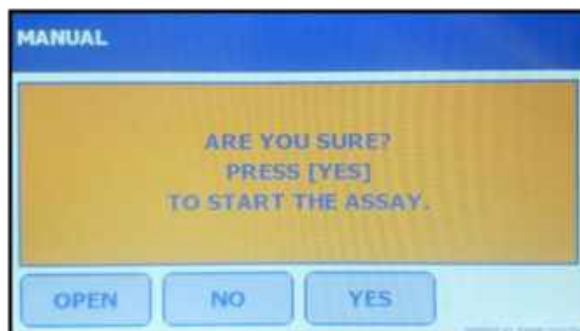

Figure V-10: Confirmation of Program Run
1. To run the program without saving, press [RUN] to initiate the program. The FP-24 5G prompts “ARE YOU SURE? PRESS [YES] TO START THE ASSAY” for confirmation of the program run \(Figure V-10\).